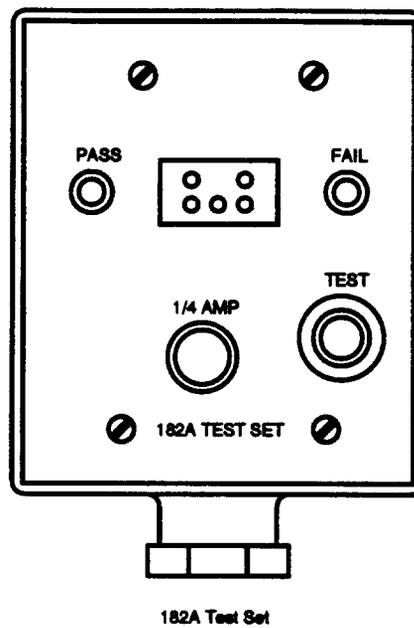

Figure 7. 182A Test Set
- 5.03** The 182A test set (Figures 7 and 8) is used to test the minibridge lifter protector units (4B11F and 4C11F) for tip and ring continuity and for shorted protector blocks. It also tests the function of the 410A switch contained in the protector unit. The 182A test set is housed in a conduit box for wall mounting.